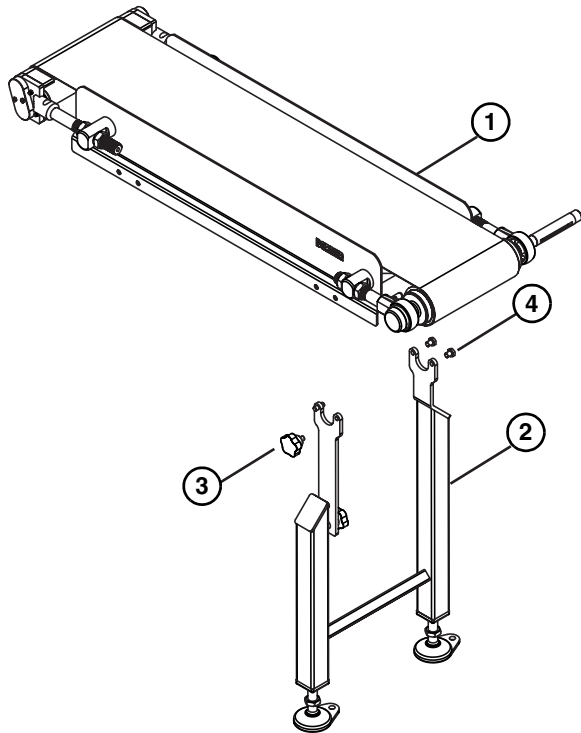

Figure 33
Typical Stand Components (Figure 33)
3. Attach the quick-release arm to the stand with the knob. (**Figure 33, item 3**).